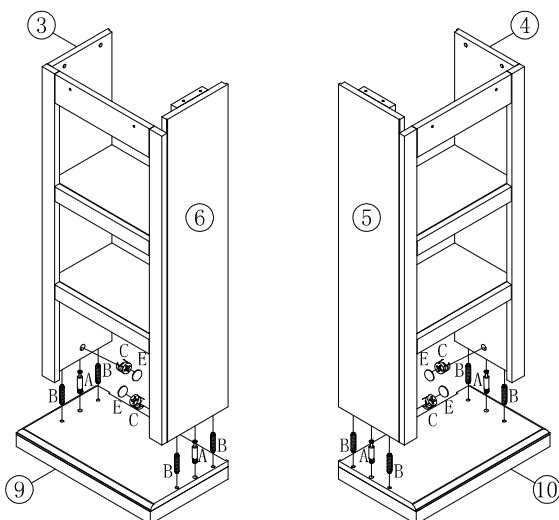

Figure 3
INSERT 4PCS CAM-BOLTS (A), 8PCS WOOD DOWELS (B) INTO PREDRILLED HOLES ON UPSIDE OF LEFT AND RIGHT BASES (9&10) AND FIT INTO CORRESPONDING HOLES ON BOTTOM EDGES OF LEFT AND RIGHT SIDES OF BOOKCASES (3,4,5,6). INSERT 4PCS CAM-LOCKS (C) INTO BIG HOLES ON INSIDES OF LEFT AND RIGHT SIDES OF BOOKCASE (3,4,5,6) WITH SLOT FOR SCREWDRIVER FACING OUTWARD. ROTATE CAM-LOCKS (C) CLOCKWISE TO SECURE CAM-BOLTS (A). PUSH COVERS (E) INTO CAM-LOCKS (C). AS FIGURE 3 SHOWN.